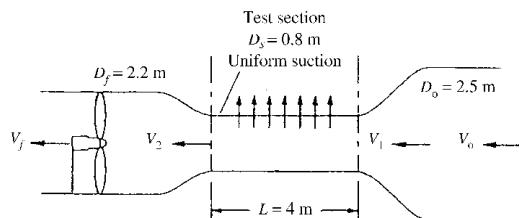

Fig. P3.33
**3.33** In some wind tunnels the test section is perforated to suck out fluid and provide a thin viscous boundary layer. The test section wall in Fig. P3.33 contains 1200 holes of 5-mm diameter each per square meter of wall area. The suction velocity through each hole is  $V_r = 8 \text{ m/s}$ , and the test-section entrance velocity is  $V_1 = 35 \text{ m/s}$ . Assuming incompressible steady flow of air at  $20^\circ\text{C}$ , compute (a)  $V_o$ , (b)  $V_2$ , and (c)  $V_f$ , in m/s.